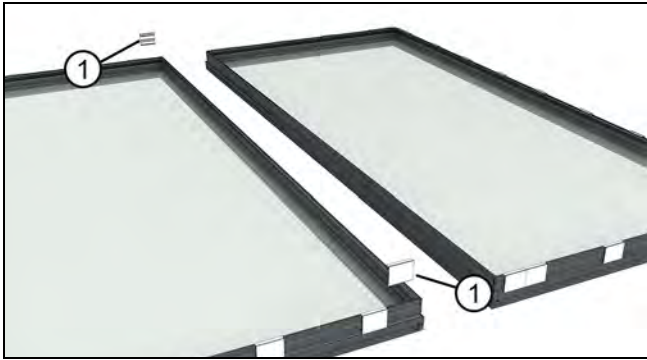

Figure 35
4. Remove any shim blocks along the mulls. Also remove shim blocks from the top and bottom corners adjacent to the mull on units that do not have the steel attached to first (in this case, the A2 unit). See Figure 34 and Figure 35.